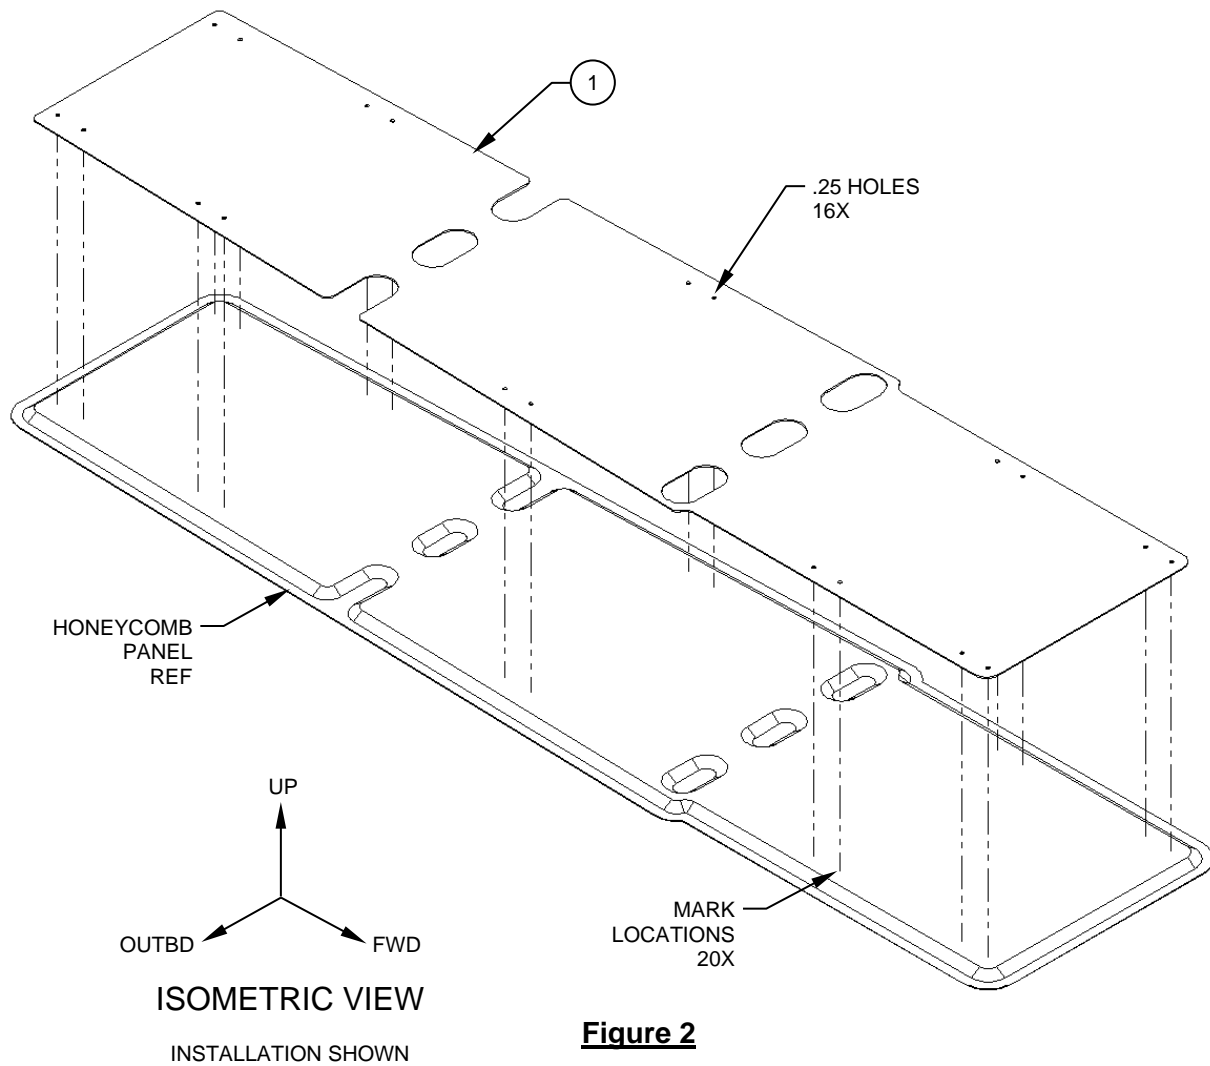

**Figure 1**
1. Pre-fit the Floor Panel, Assy (Item 1) by lining up the oval cut outs with the recesses in the honeycomb panel that contain the footman loops. Reference Figure 1.